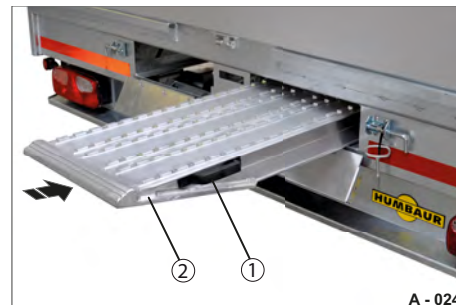

Fig. 30 Sliding in the ramp planks
- Slide the ramp planks (Fig. 30/2) from the rear fully into the ramp plank bay.